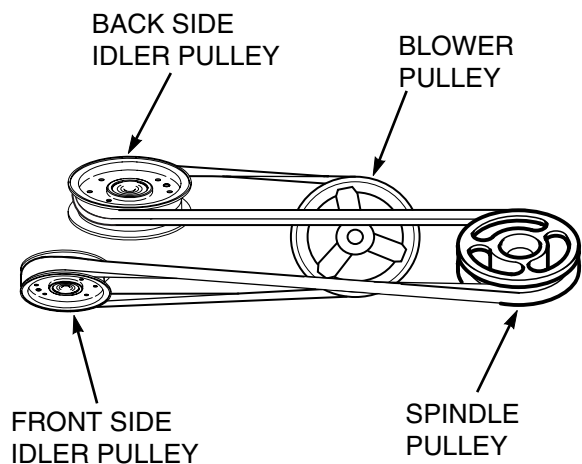

Figure 2-7. Belt Routing
15. Install the belt to the spindle pulley. When replacing the belt. See Figure 2-7.